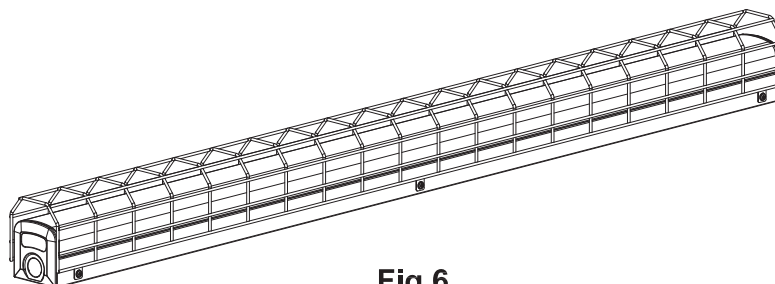

Fig 6
3. Complete as shown in Fig.6.